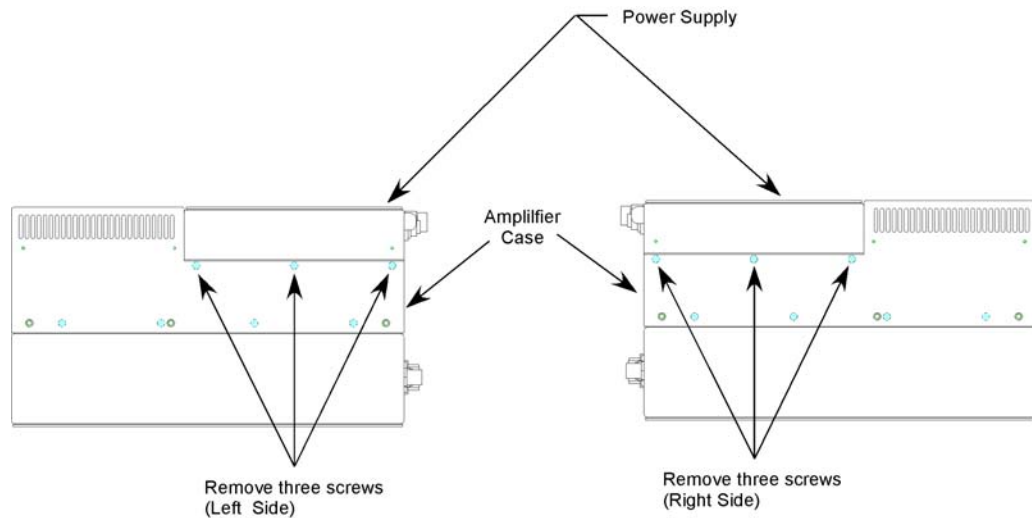

Figure 4, Location of Power Supply Screws
2. Refer to Figure 4. Turn the amplifier upside down.